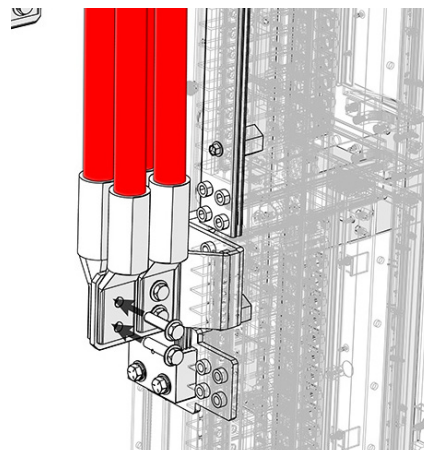

Figure 8. HOT Input Cable Termination
- Step 2. Install the hot input cables/lugs to hot input position 1 (see Figure 8 on Page 9).
- Step 3. Install the hot input cables/lugs to hot input position 1 (see Figure 8 on Page 9).
- Step 2.** Install the hot input cables/lugs to hot input positions 1 and 3 (see Figure 8 on Page 9).
- Step 3.** Install the hot input cables/lugs to hot input positions 1 and 3 (see Figure 8 on Page 9).
- Step 2.** Install the hot input cables/lugs to all four hot input positions (see Figure 8 on Page 9).
- Step 3.** Install the hot input cables/lugs to all four hot input positions (see Figure 8 on Page 5).